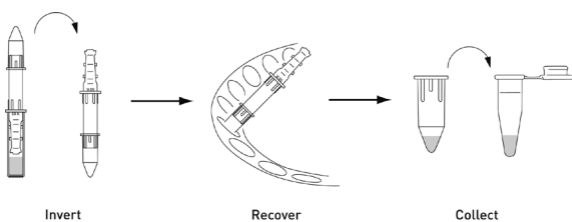

Figure 4. Collection of purified and concentrated azide-activated antibody.
3.11 Invert the antibody concentrator into the conical collection tube as shown in Figure 4.